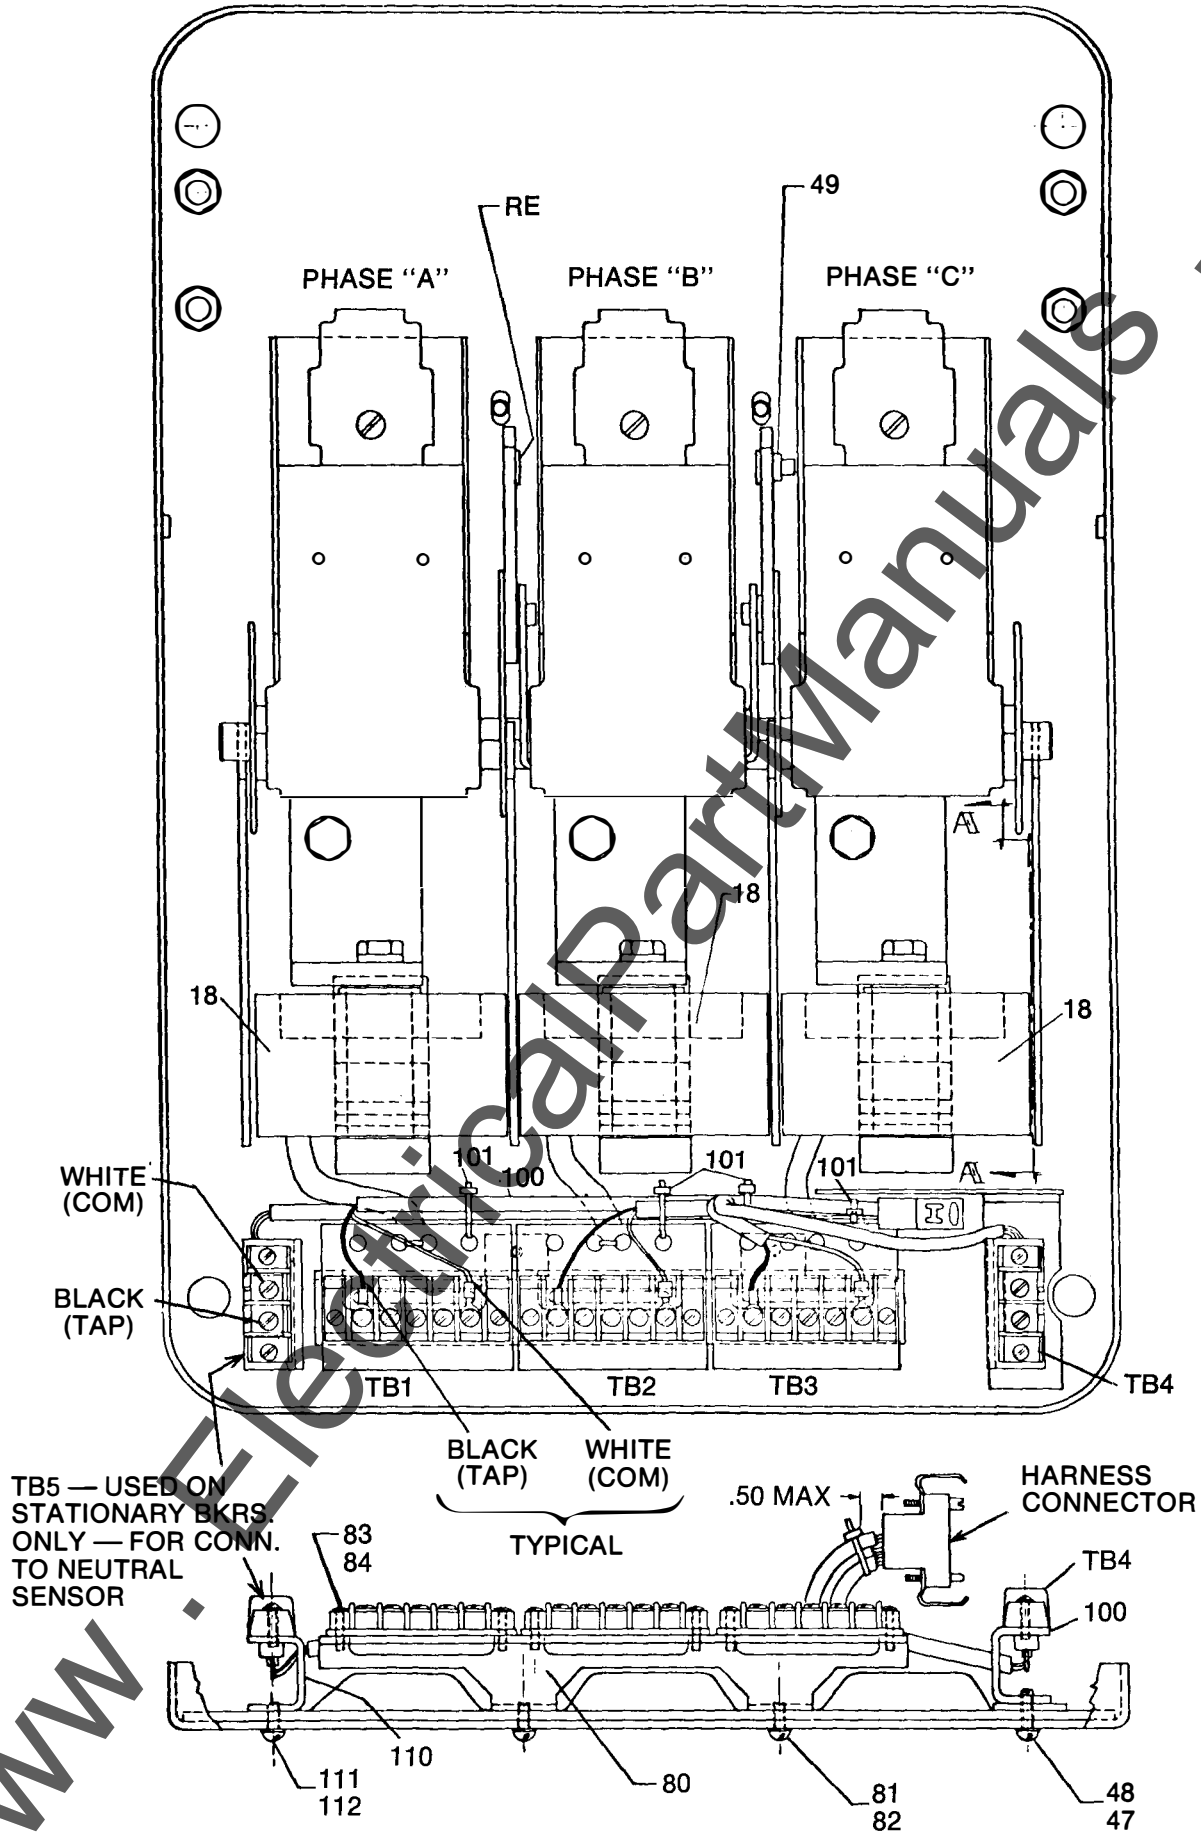

Fig. 5 — Back frame assembly
2. Assemble and mount the three current sensor (CT) assemblies to the back frame. See Figs. 5, 6 and 7. Proceed with each pole by first inserting lower copper stud 90 through the back plate and attaching it via the mounting screw; then position CT 18 with its terminals toward the rear and loosely mount it to stud 90 with copper parts 91 and 92; align the assembly and torque the two $\frac{3}{8}$ " bolts in strap 91 to 25 ft.-lbs. each to assure proper contact integrity.
3. Install CT terminal board mounting bracket 80 below the CT's using the (2) 8-32 x $\frac{1}{2}$ " screws provided. See Fig. 5. Mount terminal boards TB1, TB2 and TB3 to the bracket using the (6) 6-32 x $\frac{1}{2}$ " screws and washers provided.
5. Mount programmer rear mounting bracket 70 together with flux shift trip device terminal board TB4 (part of wire harness 100) to the lower right corner of the back frame utilizing existing holes — See Figs. 5 and 6.
6. Install wire harness 100 on back frame and connect per instructions on Figs. 9, 12 or 16 as applicable to the particular breaker type involved. For tie-down and forming details, see Fig. 5.